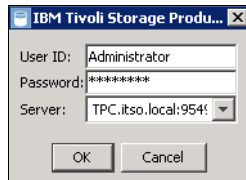

Figure 12-39 Authentication
1. Start the Tivoli Storage Productivity Center GUI by clicking **Start → All Programs → IBM Tivoli Storage Productivity Center → > Productivity Center**. You are prompted to authenticate (Figure 12-39). Click **OK**.